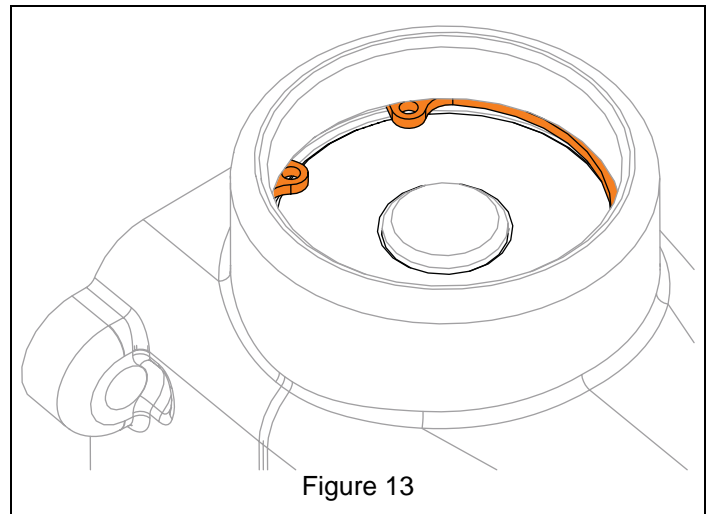

Figure 13
9. Reinstall retaining ring. See Figure 13.